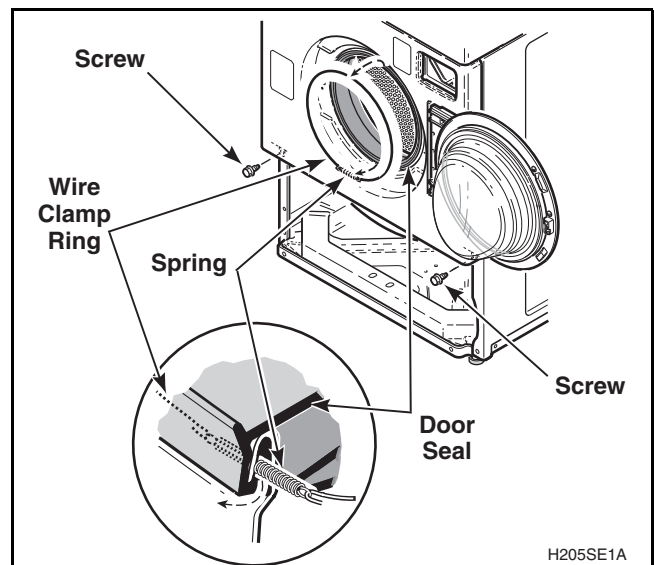

Figure 26
- Open loading door. Carefully remove wire clamp ring from groove with small flat blade screwdriver. Spring is in 6 o'clock position. Refer to *Figure 26*.